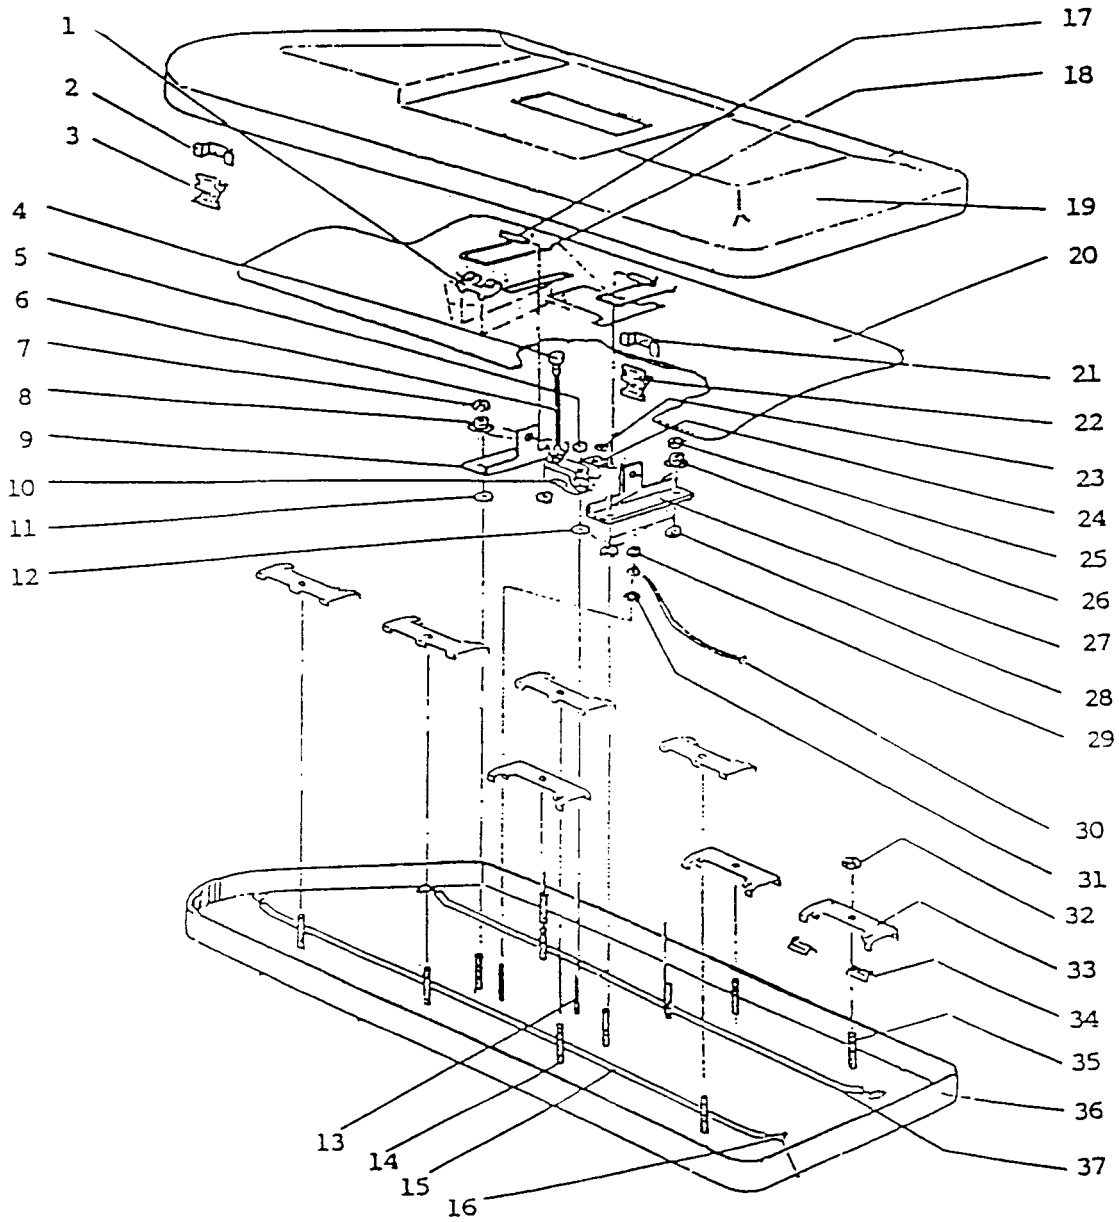

FIG 6a
** REFER TO FIGURE 6ab **
7 HOW TO CHANGE THE THERMOSTAT UNIT (Fig 6a)
8 HOW TO CHANGE A HEATING ELEMENT (Fig 6a, b)